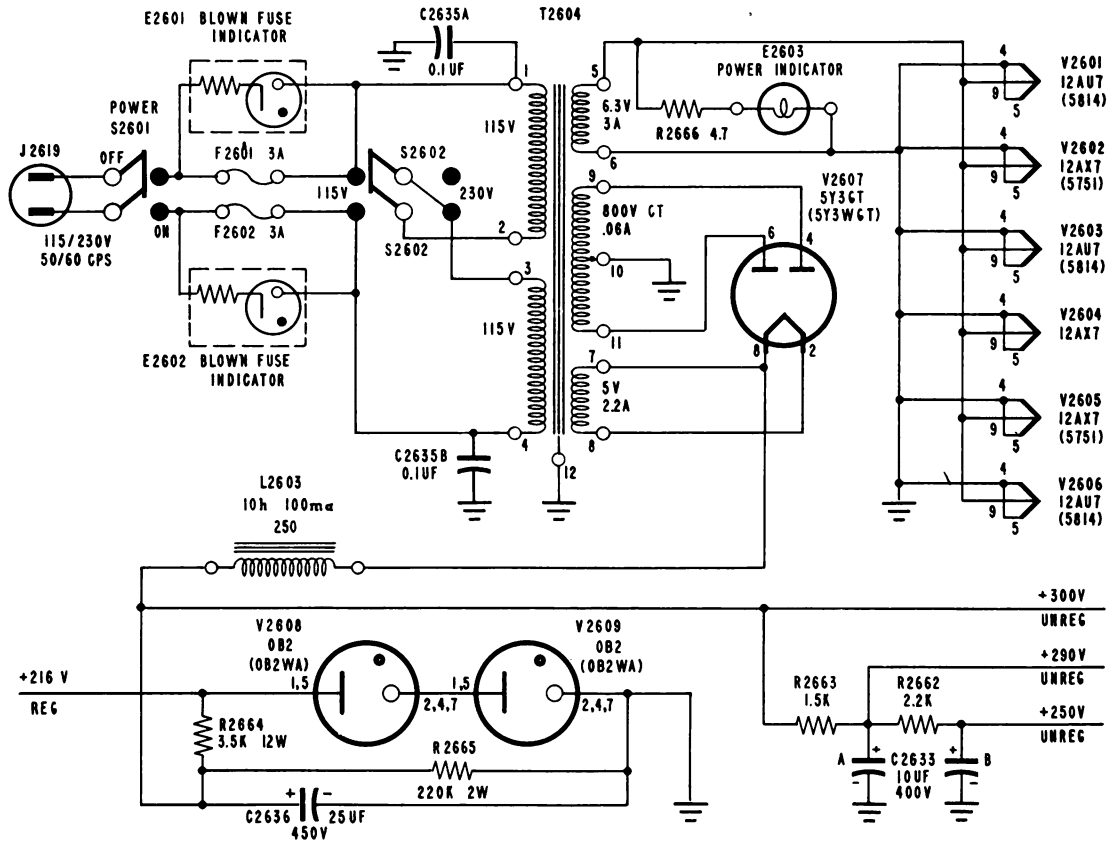

Figure 2-20. Schematic Diagram of Power Supply of Electronic Frequency Converter CV-243/FCC-3
e. POWER SUPPLY CIRCUITS. - Figure 2-20 shows